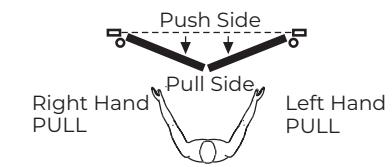

Figure 1
- Determine right hand or left hand installation. (Figure 1)